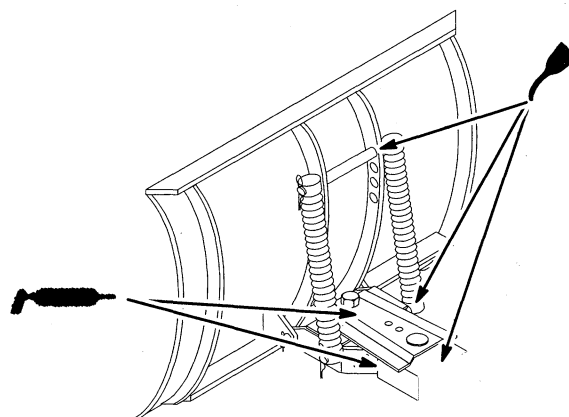

Figure 18
2. Clean the area around channel pivot with a rag. Apply grease to pivot bolt, frame and sector (Fig. 18).
2. Place a few drops of oil on all movable linkages (Fig. 18).